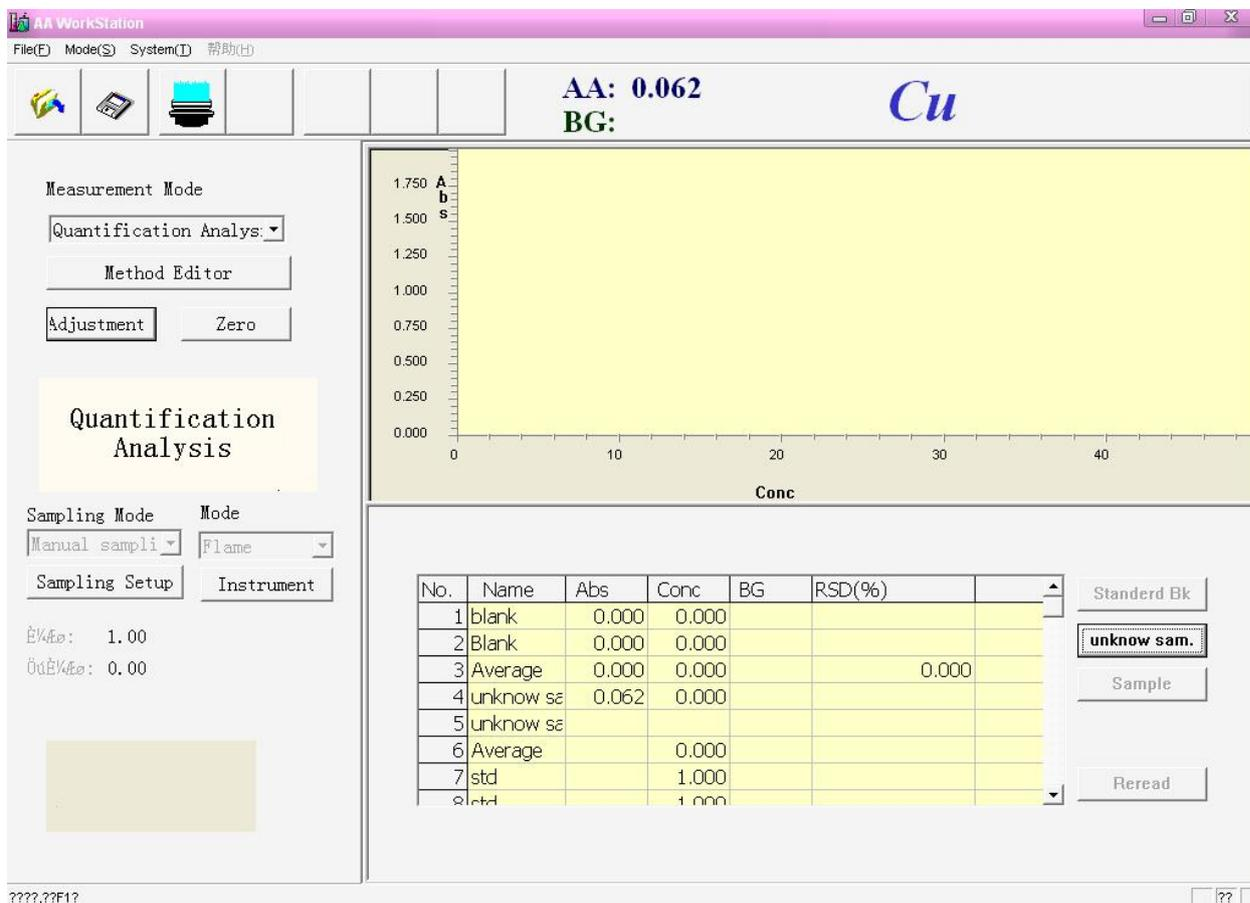

Figure 5-26
11. Start to test unknown sample. Spurt and absorb the unknown sample, press **【unknown sam.】**, display the figure 5-26